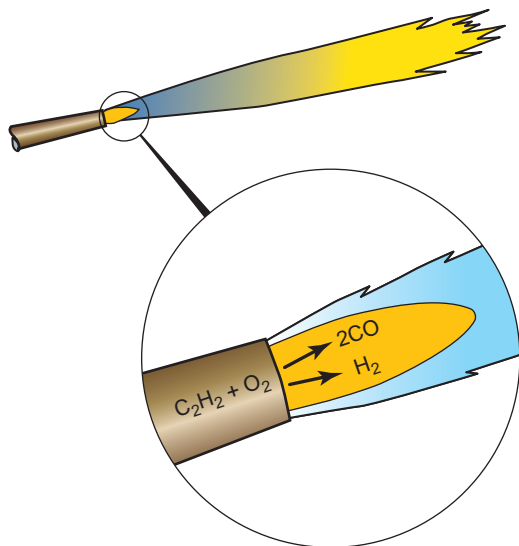

FIGURE 3-34 Primary flame reaction (with acetylene as the fuel gas).
In the primary reaction of acetylene (C_2H_2), the oxygen (O_2) atoms unite with the carbon (C) atoms. This reaction liberates energy and forms carbon monoxide (CO) and free hydrogen, **Figure 3-34**.